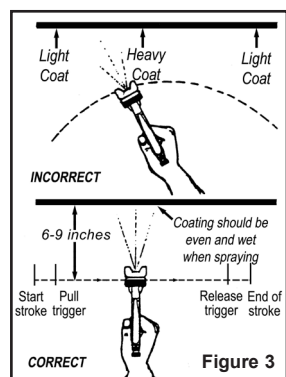
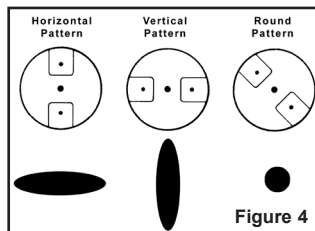

Figure 3
Figure 4
- Begin spraying. Hold the gun about 6 to 9 inches from the work surface and while moving the gun from side to side, depress the trigger to begin applying material. To avoid blobs, runs and lap marks, keep the gun in motion at all times before, after and while the trigger is depressed (see Figure 3). When spraying from the left to right, use the vertical pattern and when spraying from the top to bottom, use the horizontal pattern (see Figure 4). Practice painting on a piece of scrap material or cardboard until the test coating results are acceptable, making adjustments as follows:
- Spray pattern shape (see Figure 4) - loosen the air cap nut and turn the air cap for the desired spray pattern. Hand tighten the air cap nut after adjustment.